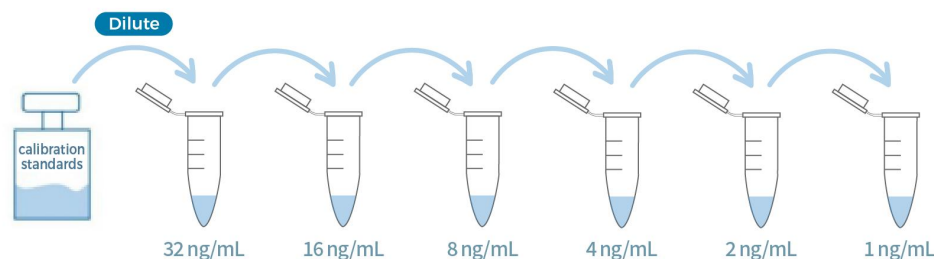

Figure 2. Graphic scheme of BSA Calibration standard solutions
(3) Preparation of Calibration standard Solutions
- Prepare BSA Calibration standard solutions as indicated in Fig 2 and Table 3.